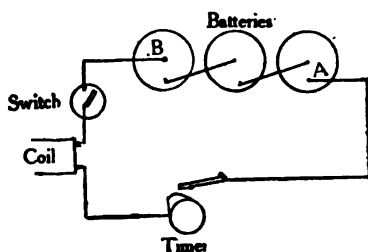
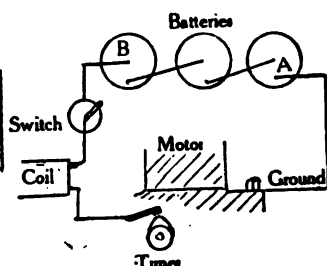

Fig. 14
Fig. 15
In all wiring systems the object is to lead the primary wires in such a way that the electricity from the batteries or magneto will travel from its source around through the switch, timer, and coil back to the source of its origin. In Fig. 14 this is illustrated in the diagram. From the batteries the wire runs from one terminal (A) to the switch, and hence to the timer, then to the coil, and from the coil back to the other terminal of the batteries at B. In order to save wire and additional connections, the frame or iron work of the motor is used as illustrated in Fig. 15. In this diagram the wire from the switch runs to some convenient spot on the motor, usually a screw or nut, and the timer being attached to the motor also, it is just as well connected to the wire as if the wire actually ran directly from the switch to the timer itself. The wire leading from the switch or battery to the engine is known as the *ground-wire*, and where both batteries and a magneto are used there are two ground-wires in many systems.